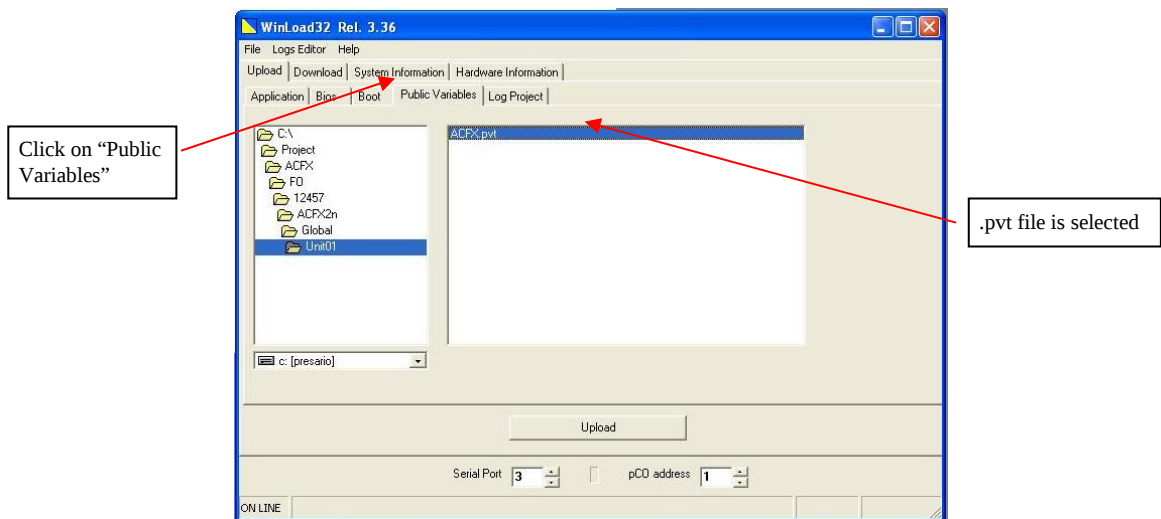

Figure 6.1.6
- vi. To upload data log file to controller, column “Public Variables” shall be selected. A .pvt file shall be selected and upload it into controller. (Figure 6.1.6).